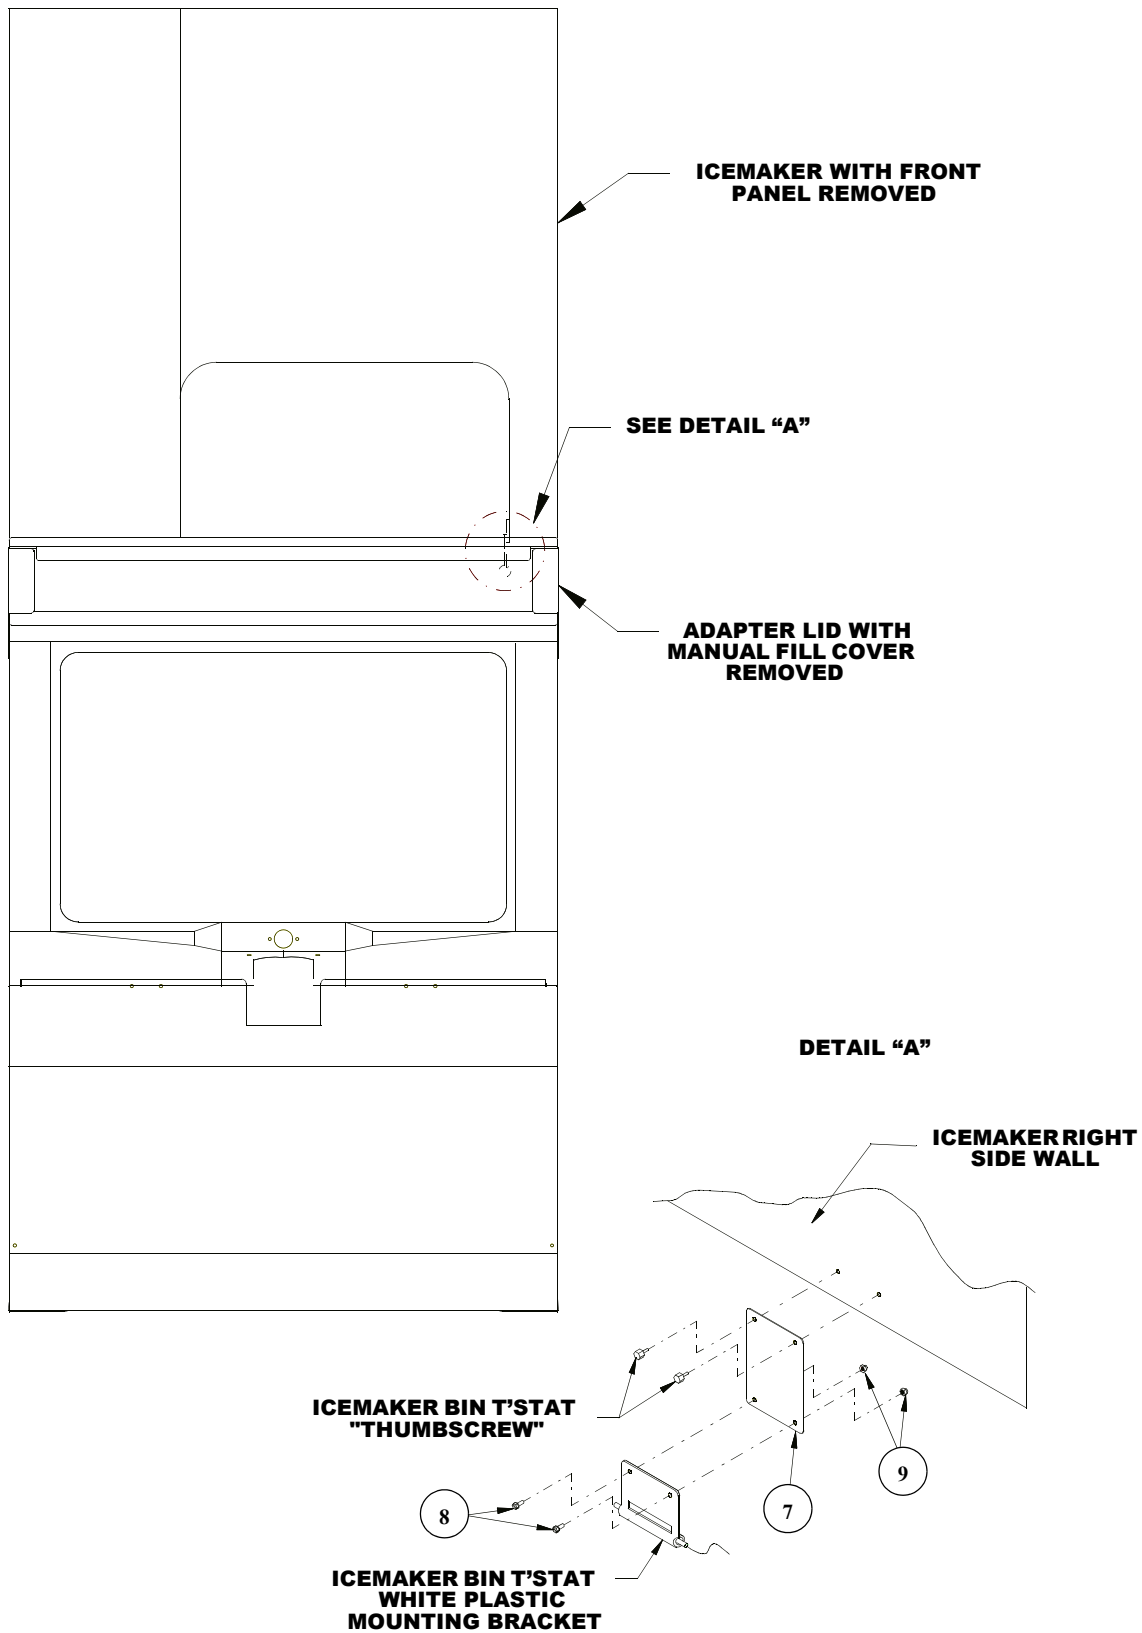

FIGURE 2
4. Using the slotted holes in the adapter lid as a template, drill four (4) .147 diameter holes (No. 26 drill) into the Dispenser cabinet (see detail A of Figure 2). Use extreme care not to drill into the ice storage bin. Secure the lid to the Dispenser with four (4) No. 10 sheetmetal screws.
7. **IMPORTANT:** The bin thermostat bracket (item 7) must be installed (see Figure 2) in order to prevent overfilling the ice storage bin
- B. Locate the bin thermostat on the lower-right side wall of the ice drop area and remove the two (2) thumbscrews that hold the bin thermostat in place.